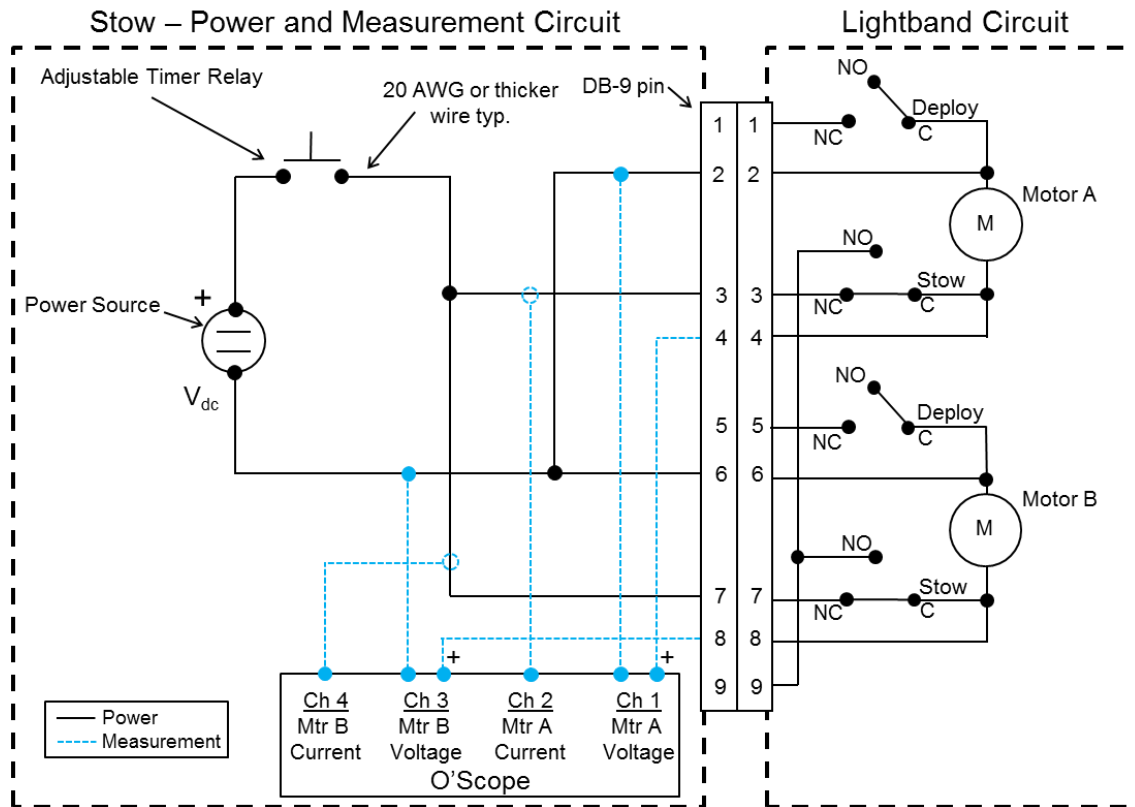

Figure 20: Stow Circuit
7.2.10	Remove the 'Stow - Test Circuit' and connect the Lightband to the 'Stow – Power and Measurement Circuit' per Figure 20. Do not apply power to the Lightband.